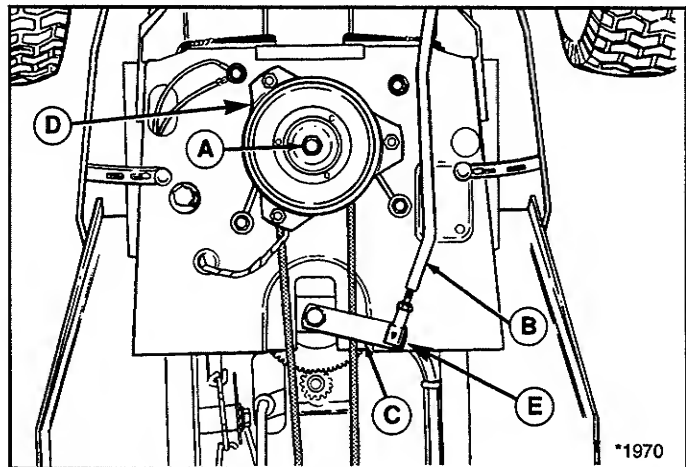

Figure 35. Drive Belt PTO Pulley
4. See figure 35. To remove belt from engine pulley, the PTO (electric clutch) must be removed and the belt slid over the top of the pulley. Disconnect the PTO wire. Remove the capscrew (A) along with the hex washer and lockwasher securing the PTO to the engine crankshaft. Slide belt over the top of the engine pulley.
5. See figure 35. Install new belt over engine pulley before re-installing the electric clutch. Install hex washer, lockwasher and capscrew (A). Lubricate weld tab on underside of tractor (D). Make sure tab is aligned with hole in top of electric clutch, then tighten capscrew to 45-50 ft. lbs. (61-68 N.m.).
6. See figure 35. On left-hand side of tractor, remove nut from capscrew (E) securing drag link (B) to steering arm (C). Drop old belt below drag link. Route new belt above drag link before re-installing nut on drag link, then tighten nut.